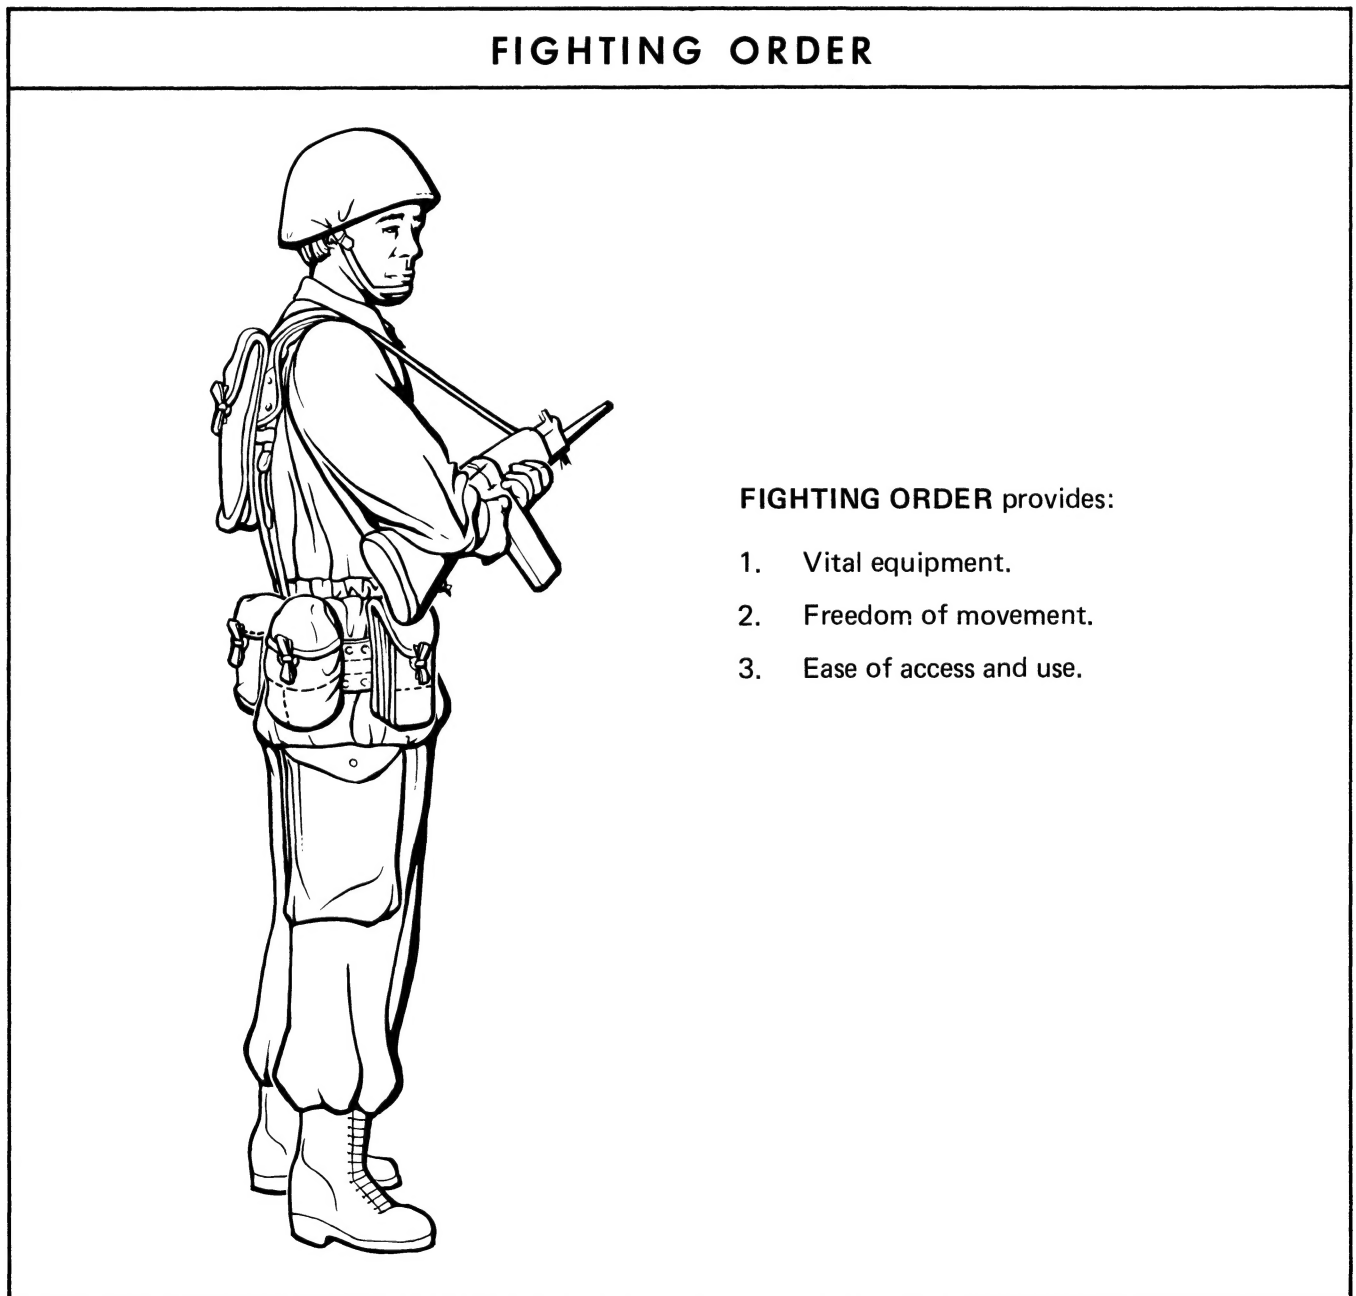

Figure 2-1 Fighting Order
1. Fighting Order consists of the ammunition, personal weapons, and items of personal equipment carried on a soldier which must be immediately available for combat. The Fighting Order is illustrated in Figure 2-1.